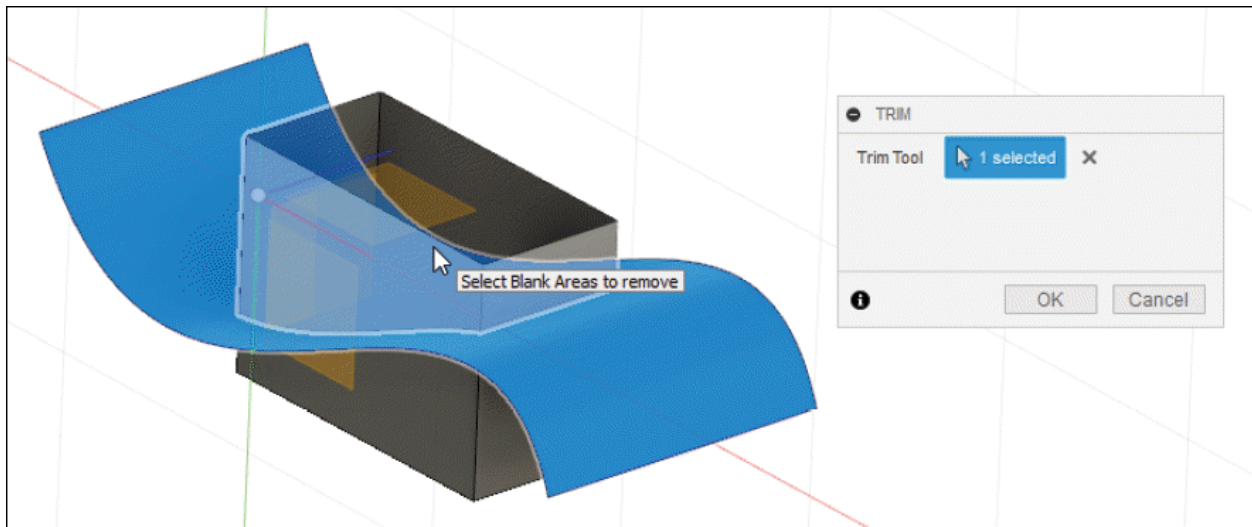

Figure-17. Selection of area to trim
- Now, you need to select the area to be removed. Click on desired area of sketch to trim; refer to Figure-17.